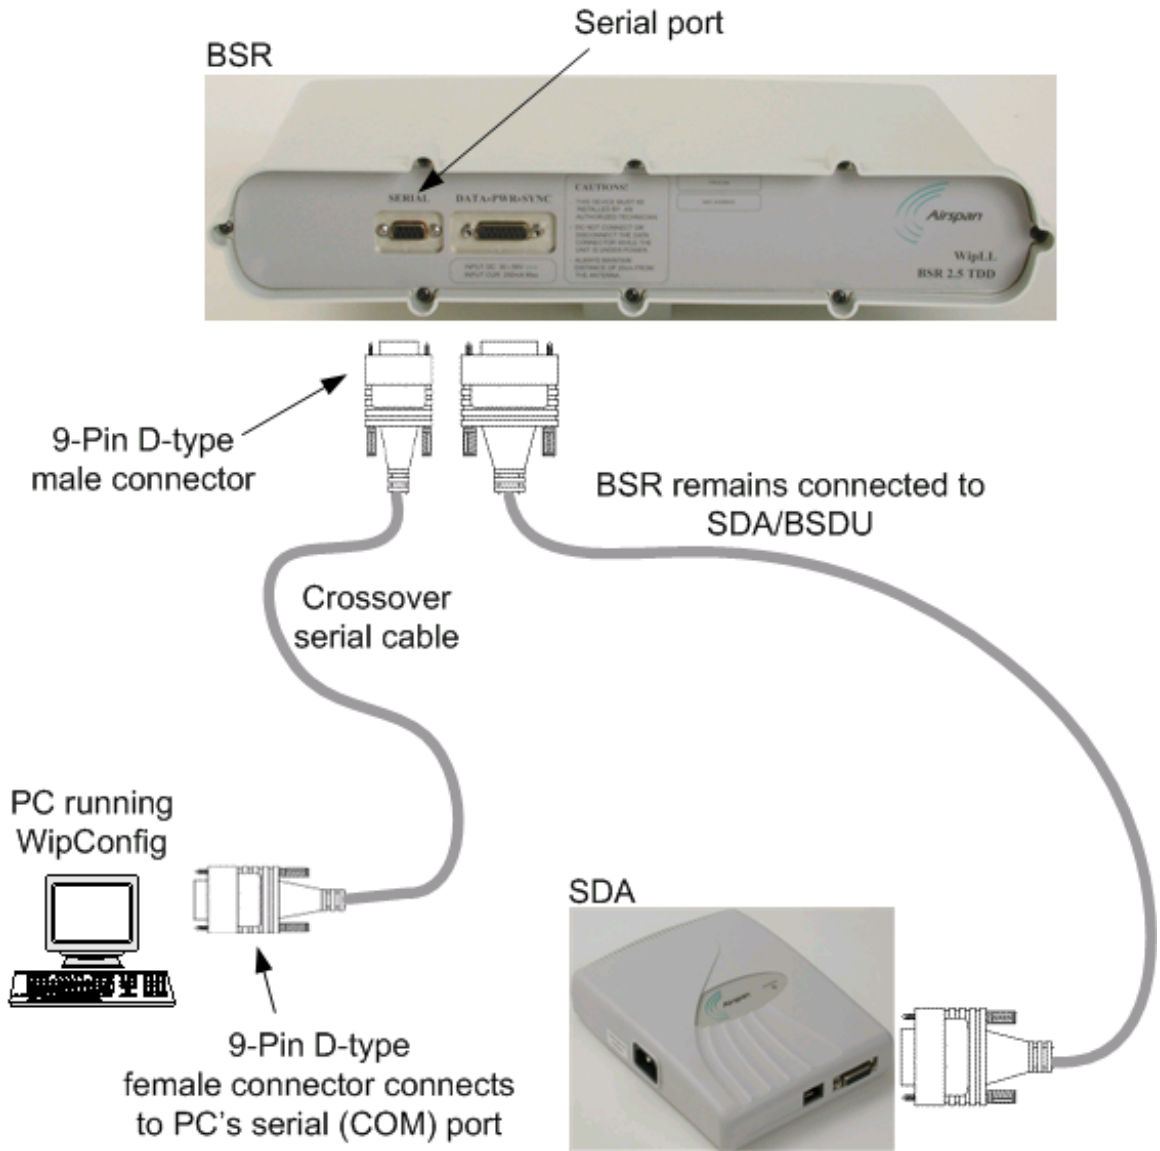

Figure 6-11: BSR-to-PC serial connection
**To connect the BSR to a PC for serial configuration (see Figure 6-11):**